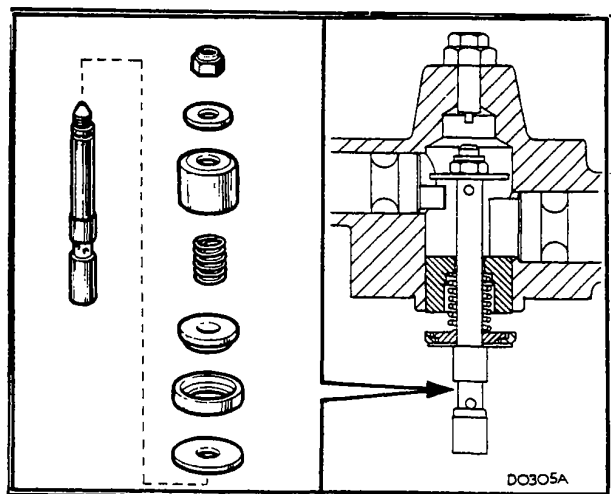

Fig. 4
57. Assemble the metering valve components as shown in Fig. 4, using tool 18G 637 when tightening the nut.